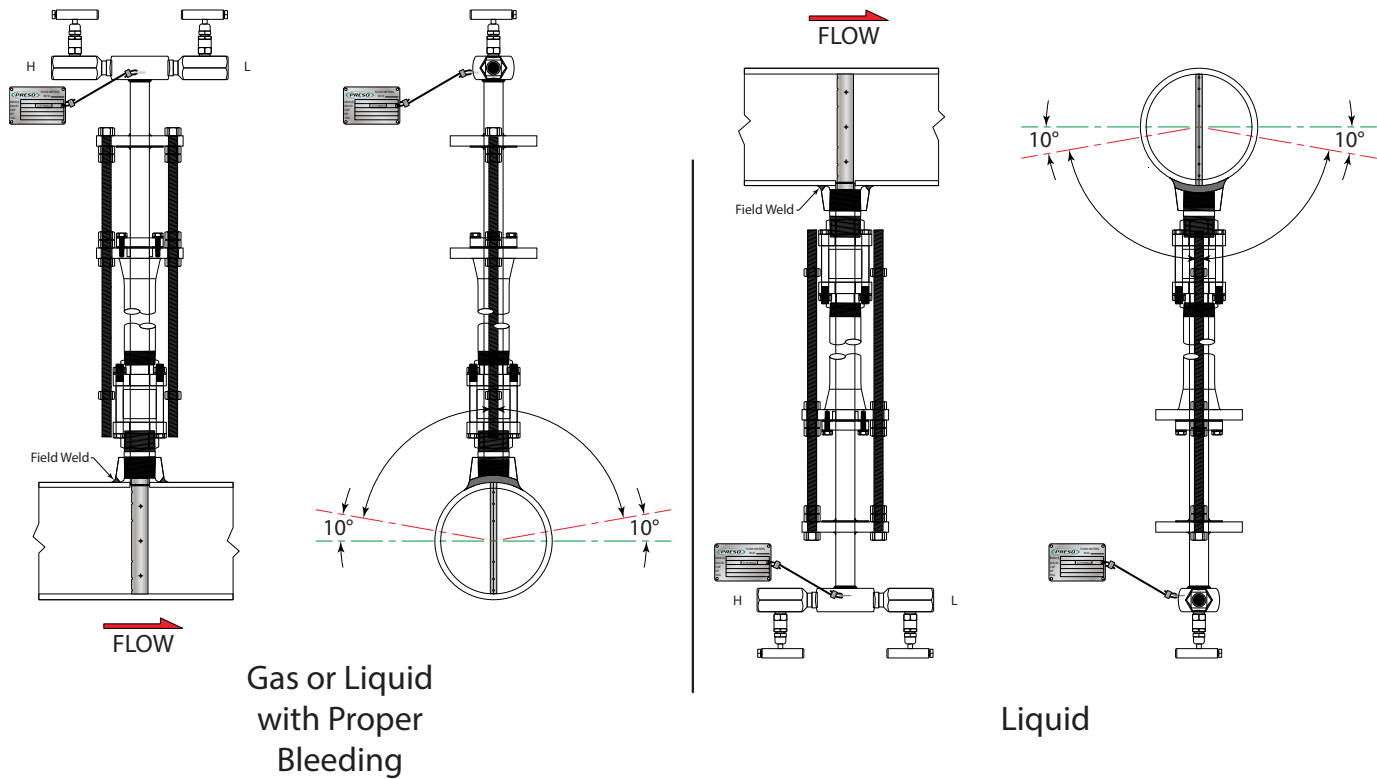
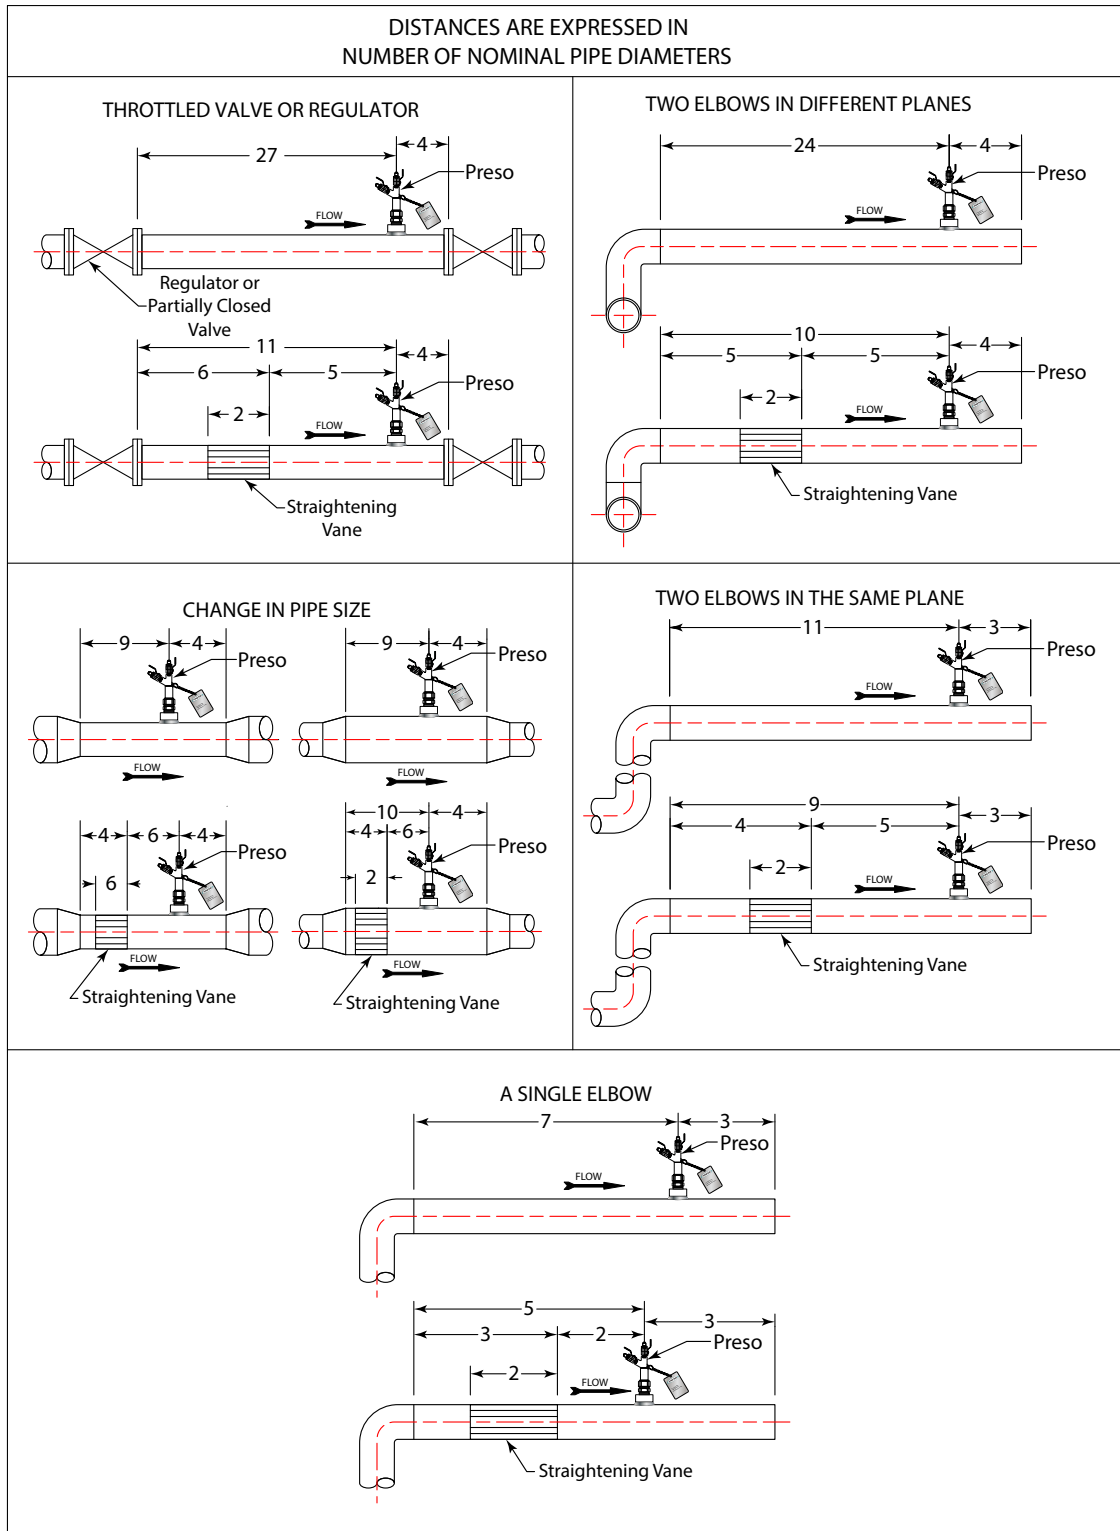

Figure 2: Horizontal pipe installation
Figure 6: Location instructions
1. Choose the proper location to install the AHL Annular High Pressure Hot Tap Meter using AGA/ASME standards (or equivalent). See Figure 2, Figure 5 and Figure 6.